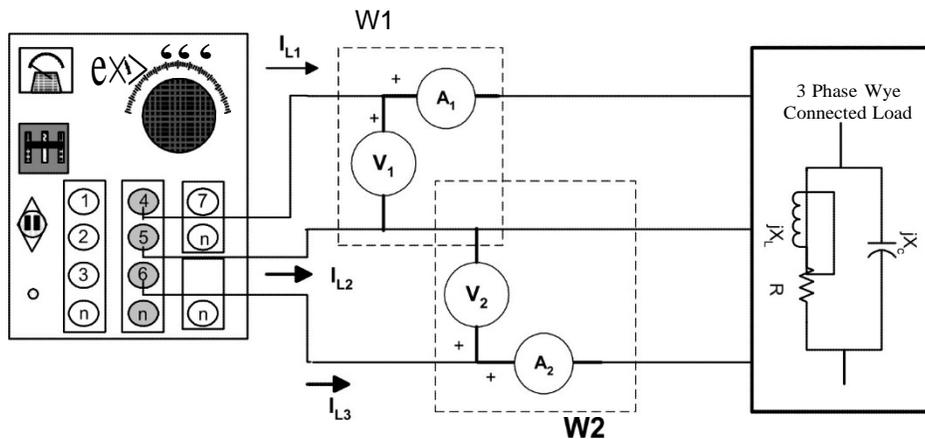

FIGURE 3.7
- Step 1: Connect the circuit shown in Figure 3.7 using $R = 300 \Omega$ $X_L = 300 \Omega$, $X_C = 400 \Omega$. Use the fixed AC output of the power supply as your power source. Use variable terminals 4,5,6 at 120 Vac. **DO NOT CONNECT THE NEUTRAL OF THE POWER SUPPLY TO THE CIRCUIT!**
- Step 2: Ensure that the DAI LOW POWER INPUT is connected to the main supply, and the flat cable from the computer is connected to the DAI. Connect the DAI'S three-phase wattmeter (two-wattmeter method) configuration to measure the power consumed by the load as shown in Figure 3.7.